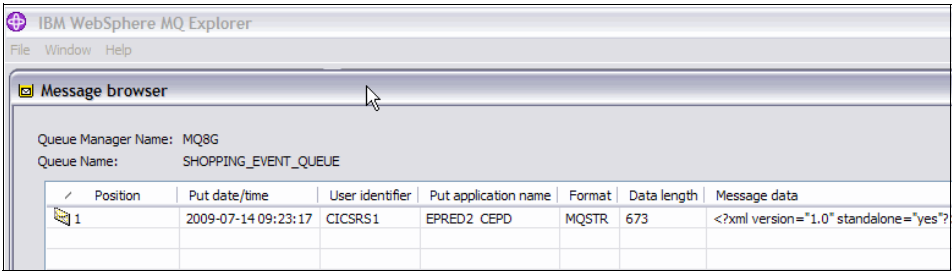

Figure 5-42 The message emitted to the WMQ queue
- We use IBM WebShere MQ Explorer(Figure 5-42) to show the message put to the WMQ queue by the adapter.We see one message put to the queue, SHOPPING_EVENT_QUEUE.